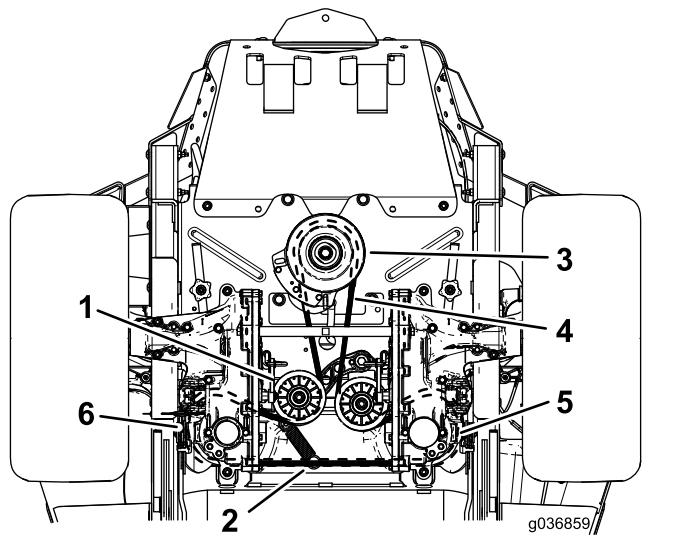

Figure 67
6. Remove the idler spring from the post (Figure 67).
8. Install the new belt around the engine pulley and the 2 hydraulic-pump pulleys (Figure 67).
4. Raise the machine and support it with jack stands (Figure 67).